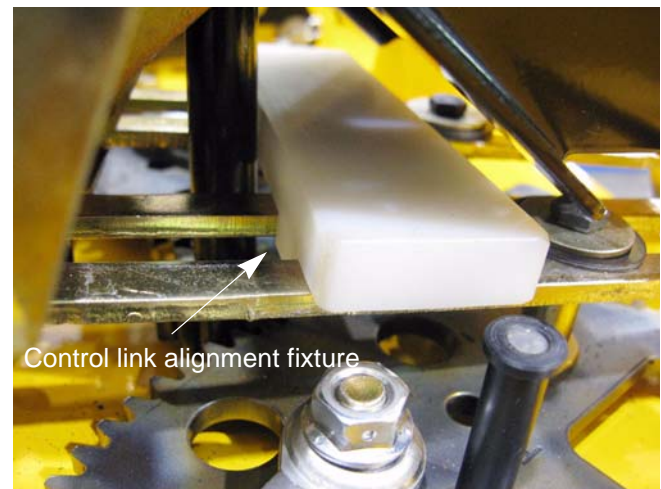

Figure 5.7
14. Install the control link alignment fixture in the slots of the control links. See Figure 5.7.